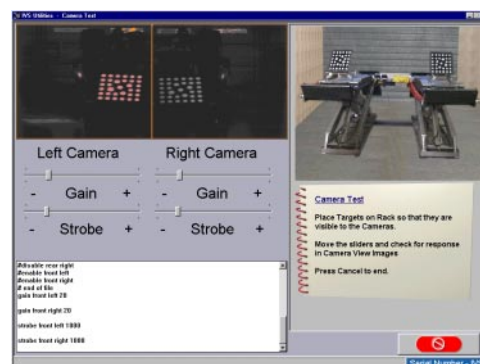

Figure 3-126
6. Once the IVS processor loads an image of the targets should appear on the monitor. (Figure 3-126)